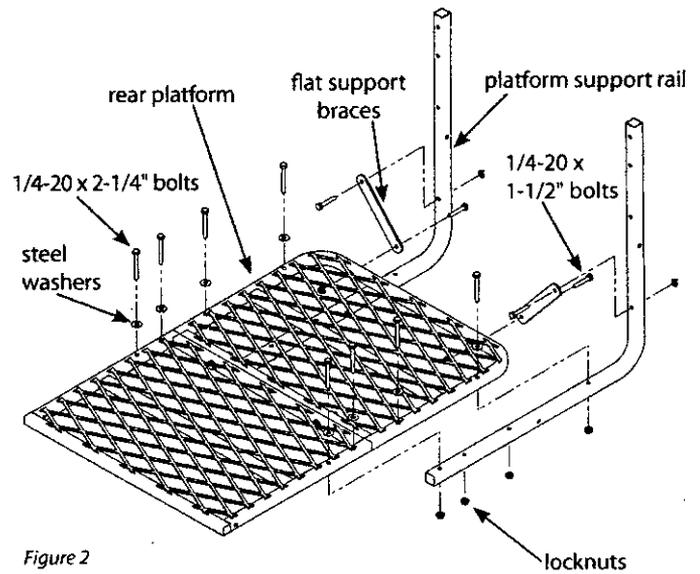

Figure 2
2. Attach the platform support rails (410055) to the bottom of assembled foot platforms using (8) provided 1/4-20 x 2-1/4" bolts, locknuts and steel washers. SEE FIGURE 2.
3. Attach the platform flat support braces (1ML40) to the rear platform and platform support rails using (4) provided 1/4-20 x 1-1/2" bolts and locknuts. SEE FIGURE 2.